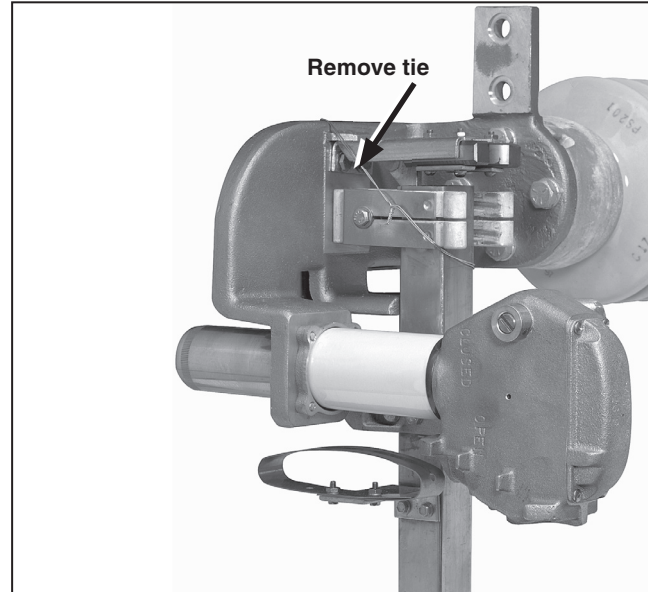

Figure 20. Removing the tie at the stationary main contact assembly.
STEP 18. Remove the ties holding the switch blades to their stationary main contact assemblies and the ties holding the toggle mechanisms to their stops. See Figure 20.